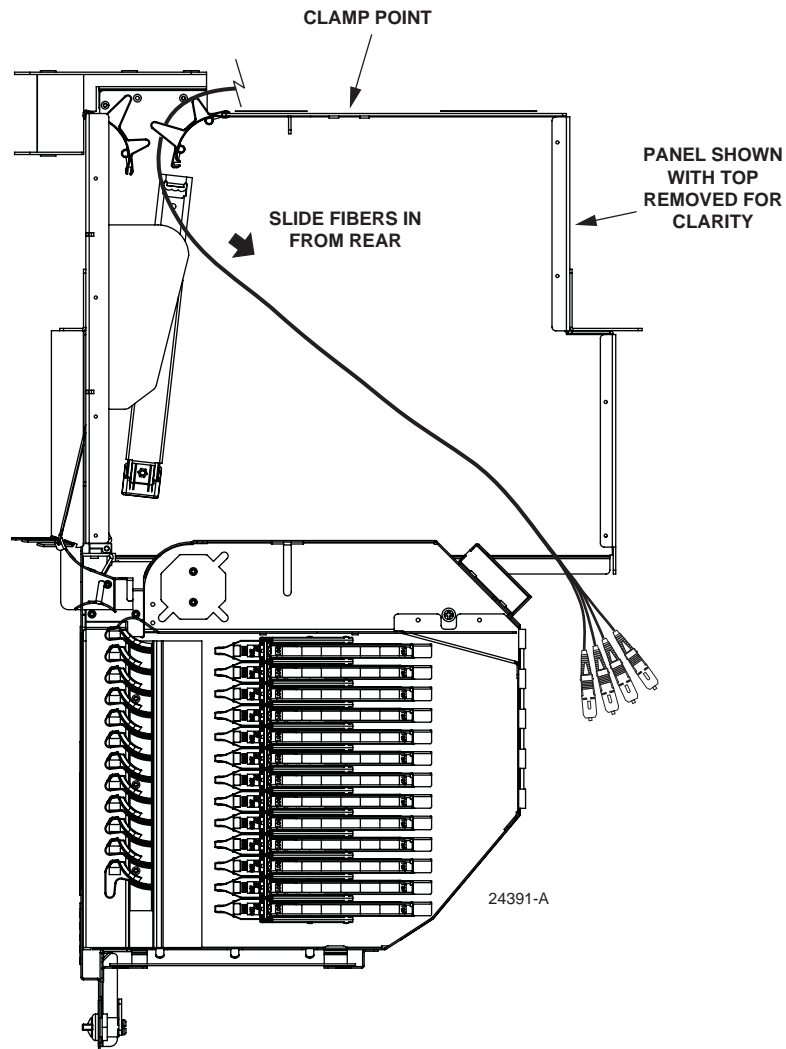

Figure 28. Routing IFC Cable Into 13-Slot MicroVAM Chassis
4. At the rear of the panel, insert the bundled connector end of the cable into the panel rear entry hole, as shown in Figure 28, and slide it through to the front.